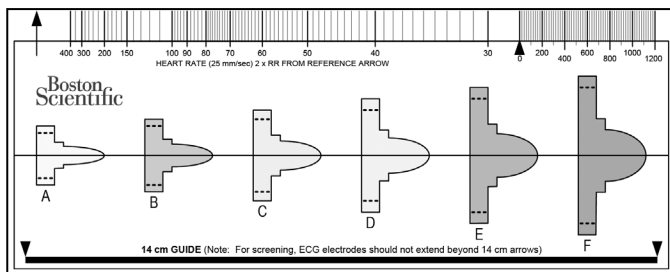

Figure 1: Patient Screening Tool. Each colored profile is assigned a letter (A,B,C,D,E,F) for ease of reference.
The patient screening tool, Model 4744 (*Figure 1*) is a customized measurement tool made of transparent plastic printed with colored profiles. The profiles are designed to ensure appropriate device performance by identifying signal characteristics that may lead to unsatisfactory detection outcomes for a patient before implant. The patient screening process is completed in three steps: (1) Collecting the surface ECG, (2) Evaluating the surface ECG and (3) Determining an acceptable sense vector.